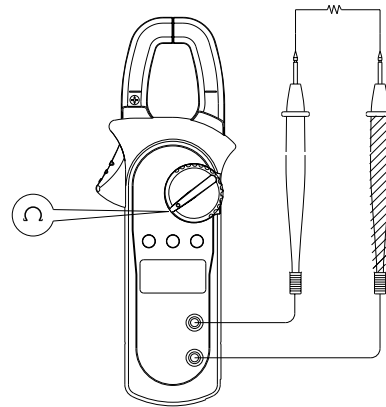

Figure 5
3. Resistance measurement (Ω) (shown in Figure 5)